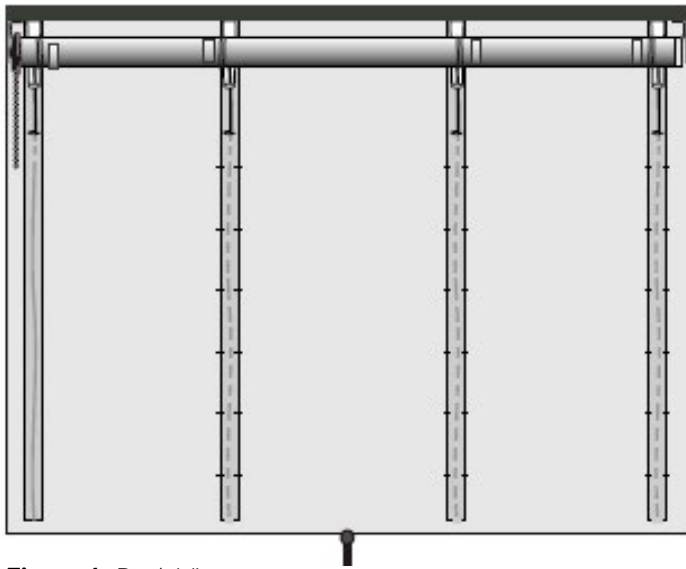

Figure 1. Back View
The **Soft Shade Skyline Clutch System** manually raises or lowers soft shades by using Roller Tube Clips to attach the lift cords to the Aluminum Roller Tube. Compared to our Traversing Clutch Soft Shade System, this system is easier to fabricate. This system also raises and lowers the shade much faster, however the pulling force required to raise the shade is much higher. In addition this system has a shade length limitation of 10 feet or less. Longer lengths may not raise evenly. Fig. 1 shows the back view of an assembled soft shade skyline clutch system with 4 Roller Tube Clips on the roller when the shade is all the way down.
Encased Lift Cord Shroud Tube Arrangement (see **Figure 1**): The shade can be made with Encased Lift Cord on the edge or well inside the edge of the shade. It is important to consider Encased Lift Cord location and spacing before you attach Encased Lift Cord to your shade. The top most row of the tacks to the shade should be no more than 8" below roller tube. The cord should exit the encased lift cord tube just above the last track.
Step 11. Put the Roller Tube Clips on the Aluminum Roller Tube. When looking down the roller, be sure all clips are aligned and every roller clip is offset alternatively from its corresponding Lift Cord by $\frac{3}{4}$ " as shown in **Figure 1**. Once the clip is attached to the Tube, it will not slip or pop off. You may insert a screwdriver underneath the clip and lift it slightly for small positioning adjustments.
Step 12. Use workroom dustboard clamps to hold the entire assembly up or use a workroom stand. Pull the control Bead Chain so that the clips are at the bottom of the Roller Tube as shown in **Figure 1**. Tie the other end of each Lift Cord to its corresponding bottom ring. If necessary, adjust the cord tension by re-tying the cord to the bottom ring, or use an orb for easy leveling/adjusting. Run the shade up and down several times, and check for either too much tension or slack on the Lift Cords when the shade is all the way down. Finally, take off the orb if used, and tie off the cord through the bottom ring. Trim off the excess cord.